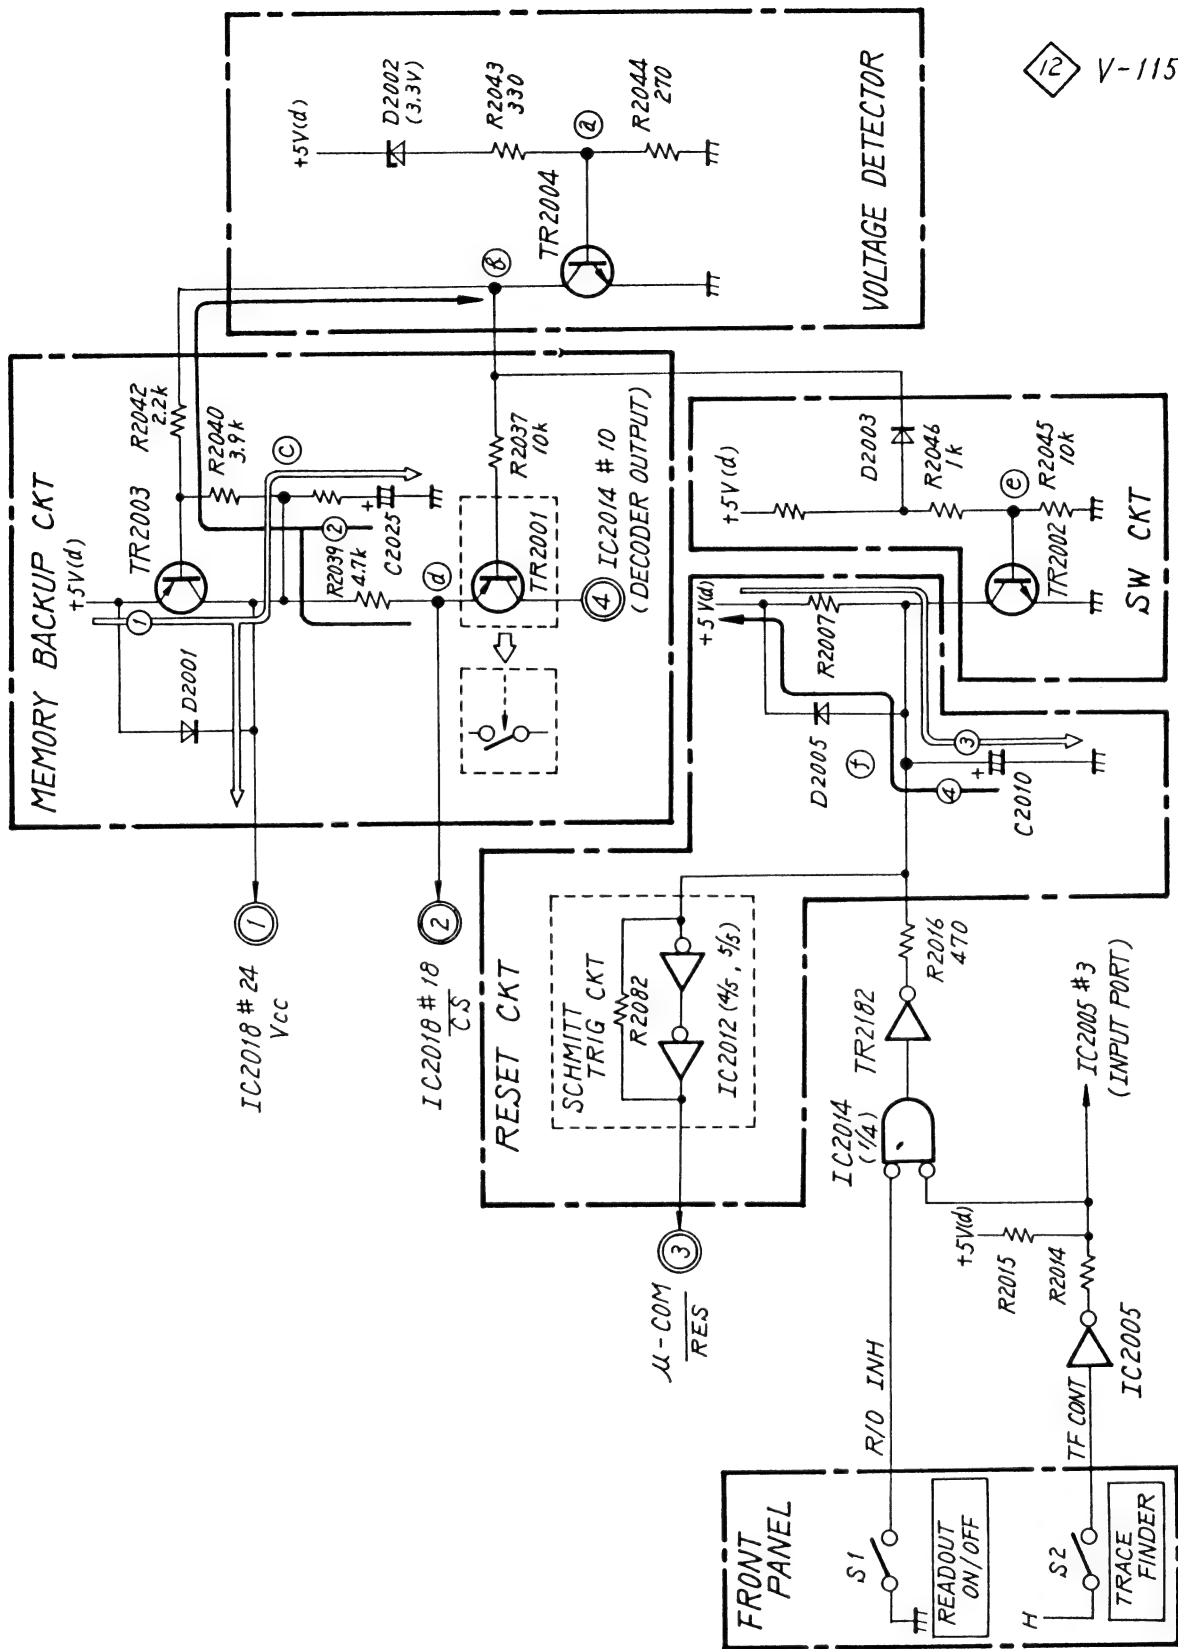

Fig. 6-20
The reset circuit and the memory backup circuit are described below by using Figure 6-20. As shown in Figure 6-20, the reset circuit consists of the RC circuit and the Schmitt trigger circuit. If the power is off, the potential at point (f) becomes zero volts. When the power is turned on at this time, the charging current (3) flows to C2010 via R2007 and the potential at point (f) rises gradually. When the potential reaches a certain value, the output of the Schmitt trigger circuit changes from "L" to "H." That is, terminal RES of the microcomputer is kept low in a certain period immediately after the power is turned on. The Schmitt trigger circuit is provided since an ideal exponential function waveform cannot be obtained at point (f).
- (1) Supplies the voltage to terminal V_{CC} of RAM 1 IC2018 ((1) in Figure 6-20) to prevent the data in the RAM from being destroyed, and
- (2) Sets terminal \overline{CS} of RAM 1 IC2018 ((2) in Figure 6-20) to "H" to prevent the RAM from being selected (i.e. prevents the RAM from reading and writing the data.)
When the +5V(d) line voltage is normal, TR2003 is on, and the current flows in the direction of arrow \Rightarrow (1) \Leftarrow . Then, the voltage of +5V is supplied to (1), TR2001 becomes on, and the control signal from pin 10 of IC2014 is supplied to RAM 1 IC2018. As shown in figure 6-20, TR2001 can be regarded as a switch controlled by the voltage at point b. C2025 is charged by part of the current shown with 1. On the other hand, TR2004 is on, the potential at point b is "L" and D2003 is on. Then, the potential at point (e) becomes "L," TR2002 becomes off, and the potential at point (f) becomes "H."